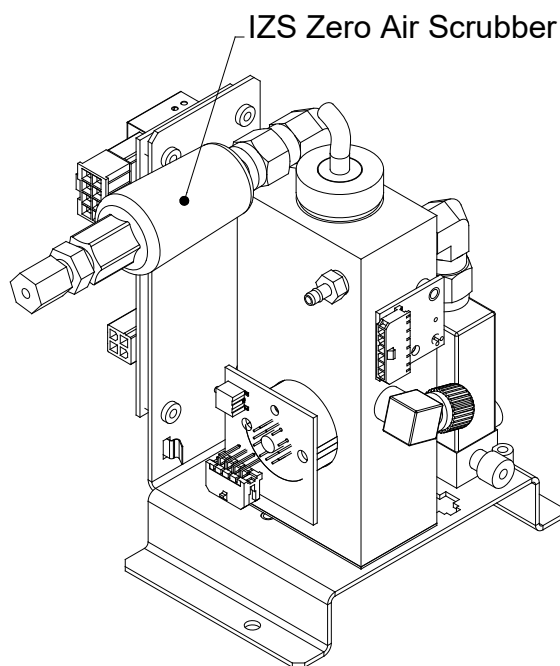

Figure 5-6. Replacing the IZS Zero Air Scrubber
3. Disconnect the white nylon  $\frac{1}{4}$ "- $\frac{1}{8}$ " fitting from the Zero Air Scrubber (See Figure 5-6).